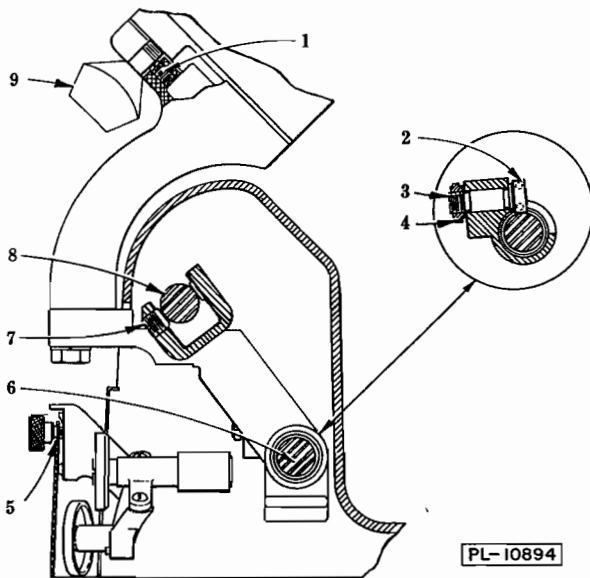

Fig. 4
This machine is furnished with a Hobart "Stay Sharp" stainless steel knife. It should be sharpened only when necessary. It is not unusual for this knife to retain its keen edge for months without re-sharpening. When not in use, hang the sharpening unit in the notch (5, Fig. 4) of the side panel. Use the thumb screw to secure the sharpener in position shown on the inside of the machine. The following sharpening procedure is recommended:
- 1. Turning the adjusting screw (7, Fig. 4) will regulate the amount of looseness (or play) in the carriage. This set screw changes the clearance between the "Rulon" plugs and the
2. To adjust the eccentric stud & brg. sub-assy. on the lower slide rod, loosen the locking nut (4, Fig. 4), then turn the eccentric stud (3, Fig. 4) to suit. A proper setting may be reached by turning the eccentric to a tight (or drag) position; then loosening so that outer race of ball bearing (2, Fig. 4) still turns on the lower slide rod, but with a minimum of bearing pressure. **NOTE:** The sleeve bearings are for alignment only. When properly adjusted, the carriage is free to glide on slide rods. Excessive drag will be noted at the carriage if the bearing is overly tightened.
The carriage tray assembly can be taken off as a unit by loosening the thumb screw (9, Fig. 4) and sliding the assembly out of the "V" support. Care should be used in order to prevent the tray from striking and damaging the knife edge. The carriage tray knife clearance may be changed by adjusting the self-locking set screw (1, Fig. 4) to suit.
Very little lubrication is needed. Both the upper (8, Fig. 4) and lower (6, Fig. 4) slide rods are to be lubricated. Use a few drops of oil (Texas "Havoline" or equiv.) weekly on these slide rods.